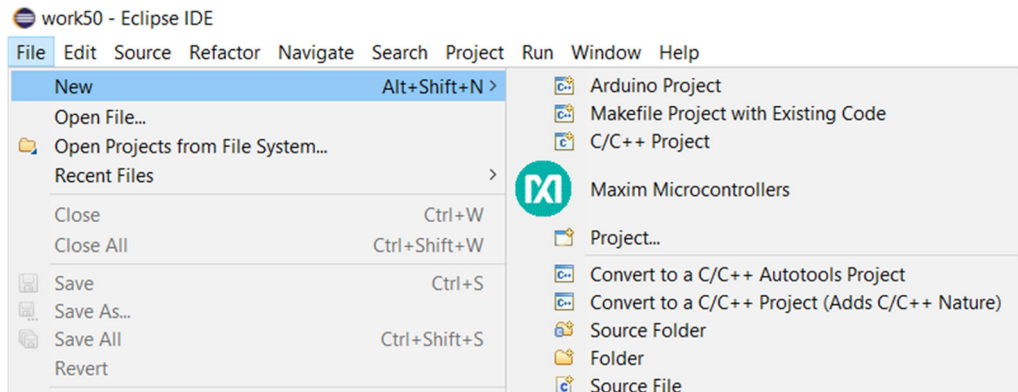

Figure 3.13 Click New and the Maxim Microcontrollers
- Click **File -> New**, followed by **Maxim Microcontrollers** (Figure 3.13)